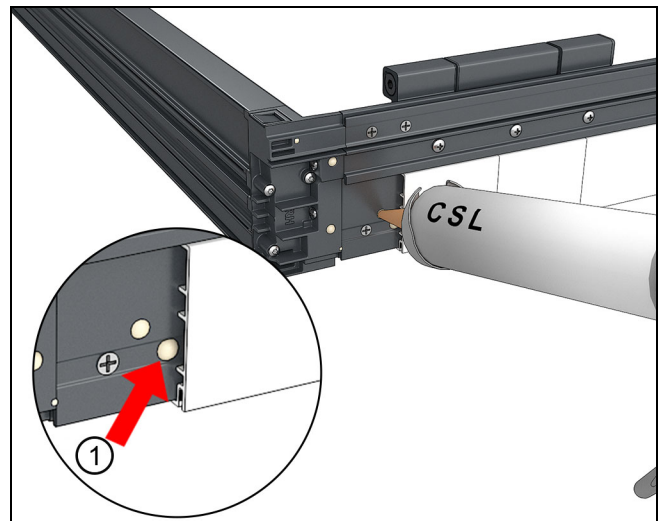

Figure 23 CSL 343 Sealant
10. Inject sealant in the lower interior frame hole until sealant comes out of the adjacent hole. See Figure 23.